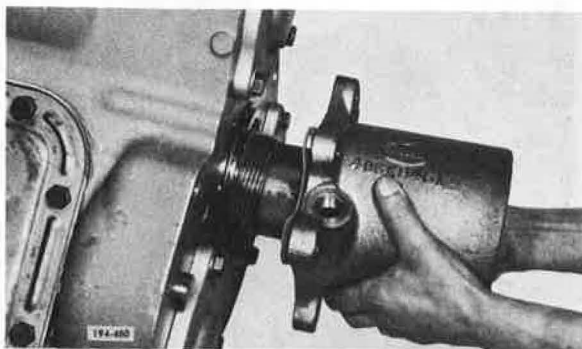

Figure 5-933. Installing Cover and Gasket
22. Apply sealer compound and install mainshaft rear bearing cover gasket and cover assembly. See Figure 5-933.